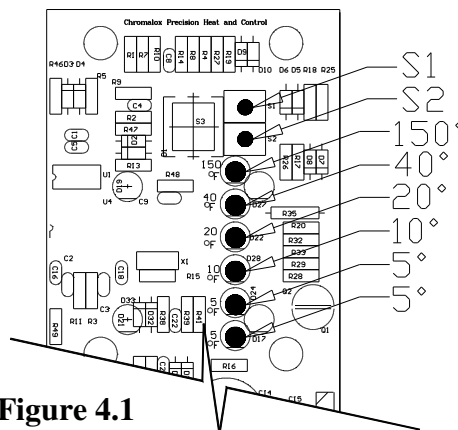

Figure 4.1
2. Locate the pushbutton S1 and S2 on the rear of the control. (see Figure 4.1)